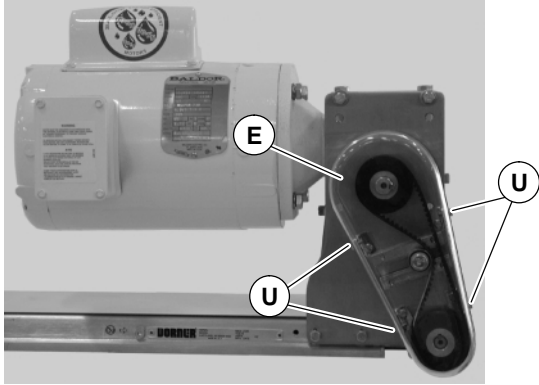

Figure 21
- Remove four (4) screws (U of Figure 21) and remove cover (E).
4. Attach cover (E of Figure 21) with four (4) screws (U). Tighten to 35 in-lb (4 Nm).